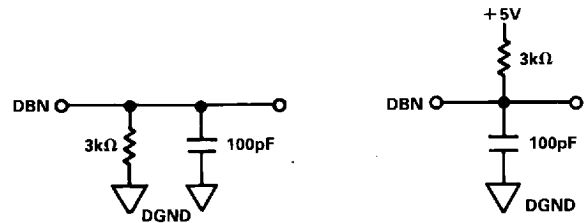

Figure 3. Load Circuits for Access Time Tests (t12)
- t4, t10, t11 and t12 are measured with the load circuits of Figures 3 and 5 and defined as the time required for an output to cross 0.8V or 2.4V.